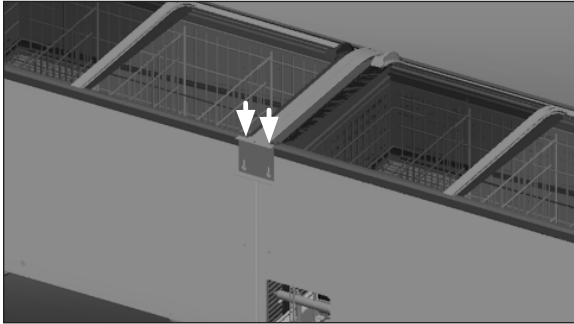

Fig. 11 Connecting plate for line-up
* See (Fig. 11) for a detail of the connecting plate.
8. If more than two cases need to be spliced in a line-up, install the connecting plate according to the position (Fig. 11) after the two cases are placed.